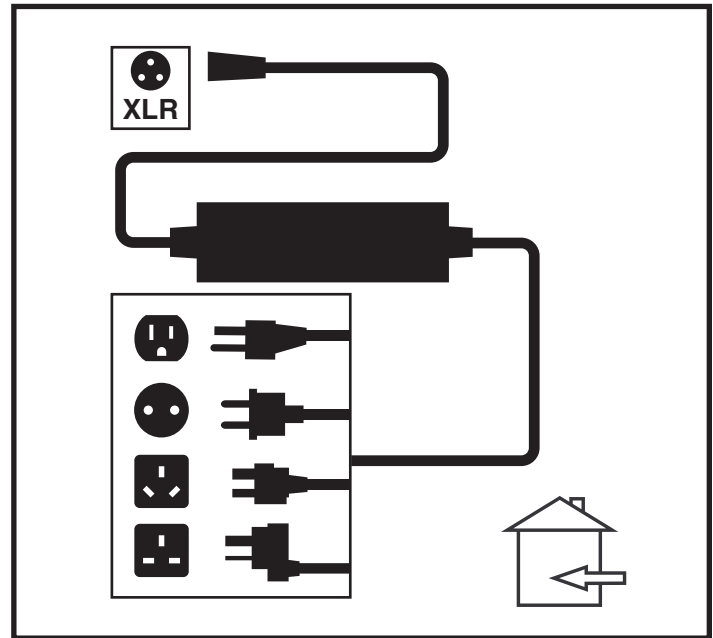

Figure 15. Battery Charging
3. Plug the off-board charger into the off-board charger/programming socket on the controller. See figure 15.